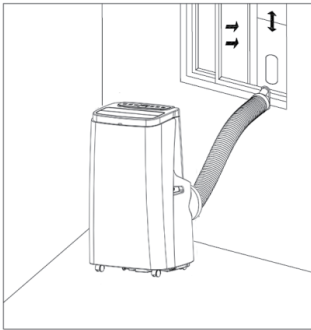
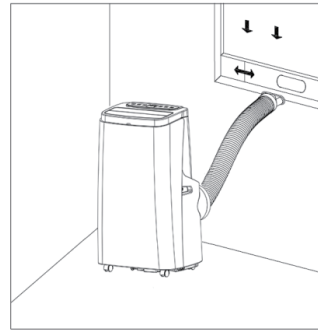

Figure 5
Figure 6
4. Elongate the heat pipe and snap the flat end of the heat pipe into the elliptical hole of the window sealing plate assembly (as shown in Figure 5 and Figure 6).